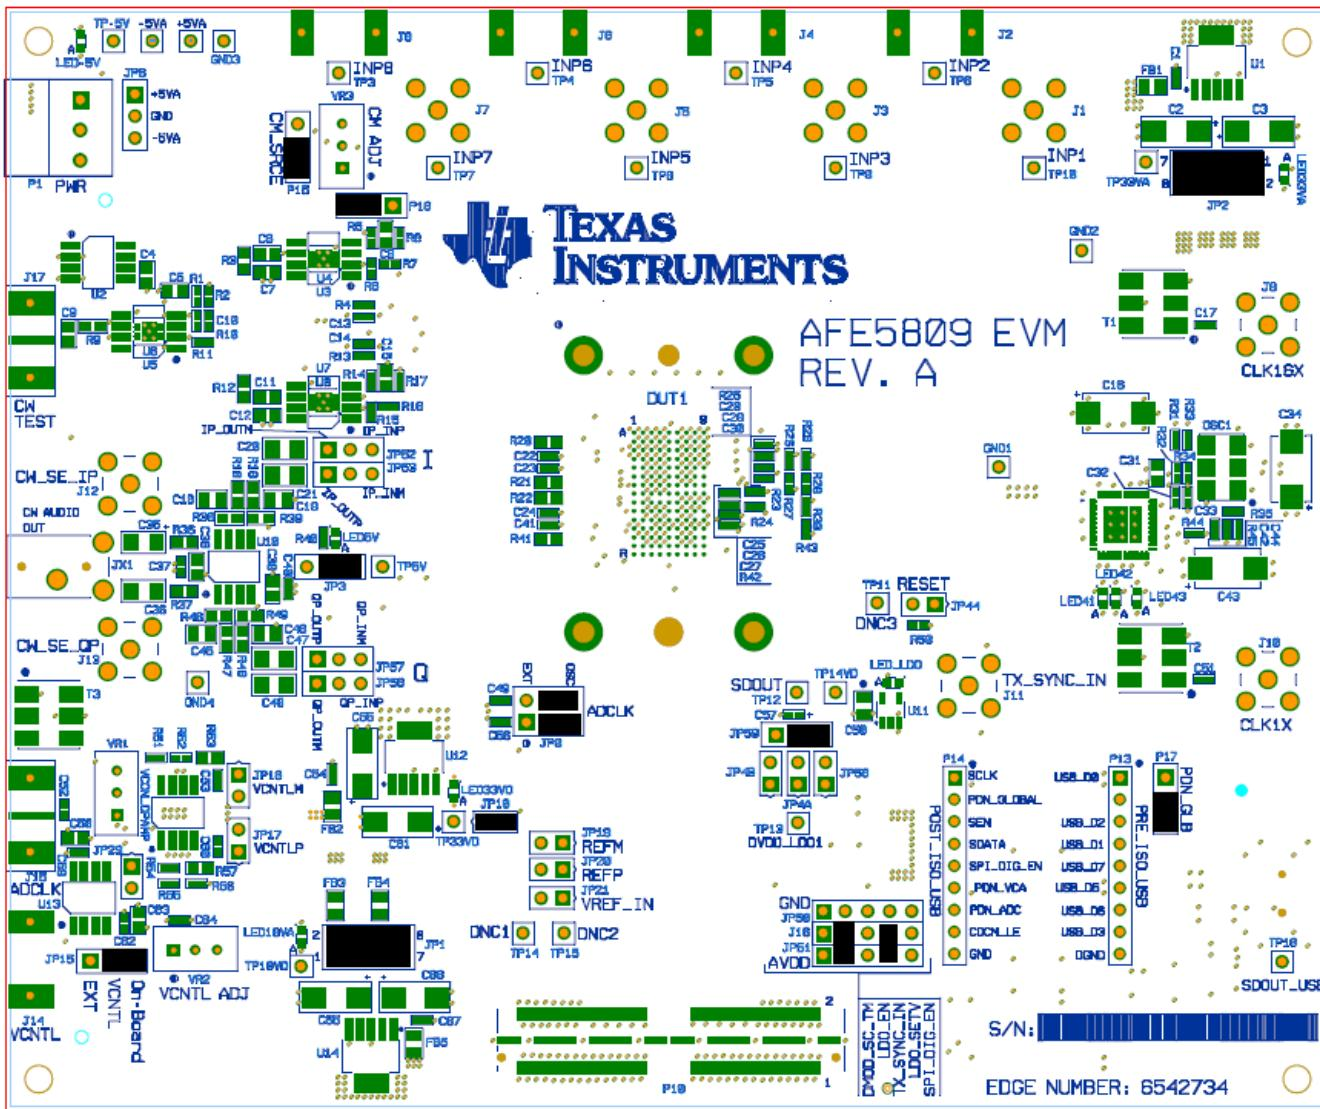
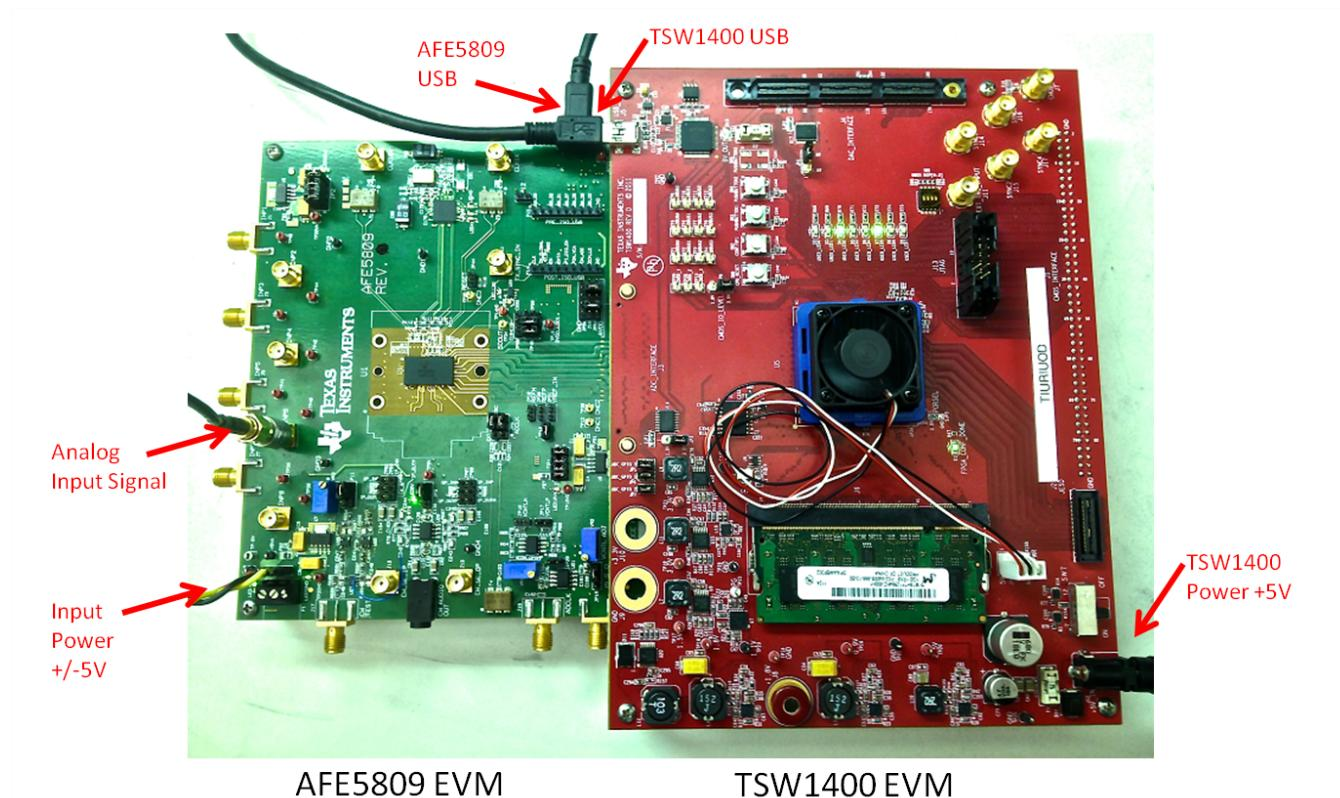

Figure 1. AFE5809EVM Basic Configuration
Figure 2. Default HW Setup With Connection Between TSW1400EVM and AFE5809
Figure 1 shows the default configuration of the EVM from the factory. The accompanying list identifies the basic components on the EVM board.
10. JP16 is set to enable the demodulator internal LDO, as shown in Figure 1.
Two EVMs are required to evaluate the AFE5809 device. Figure 2 shows the exact setup of these two boards and external connectors. For the default configuration shown in Figure 1, having an external sampling clock and external Vcntl supply is unnecessary. The onboard CMOS clock and onboard Vcntl are used.